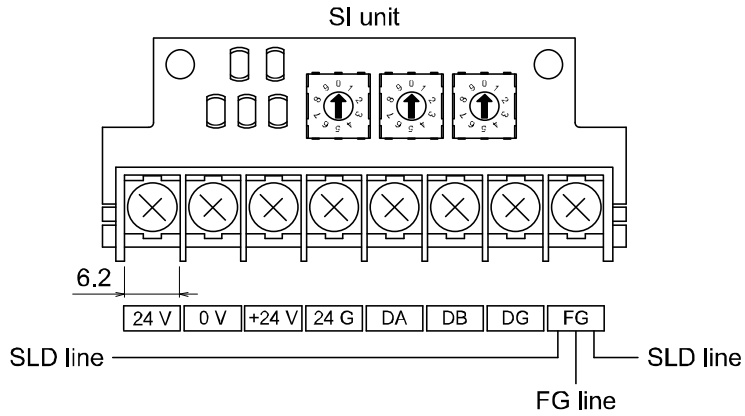

Fig. 4: Wiring to the FG terminal on the SI unit
- (4) The CC-Link-dedicated cable's shield wire (SLD) should be connected to the "FG" terminal of the SI unit. For the EX12#-SMJ1, the "SLD terminal" and "FG terminal" are common. Therefore, connect 3 wires to the "FG Terminal" as shown in Fig. 4.